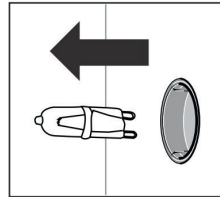

Figure 6
3. Remove the light and replace it with the same type.(Figure 6)